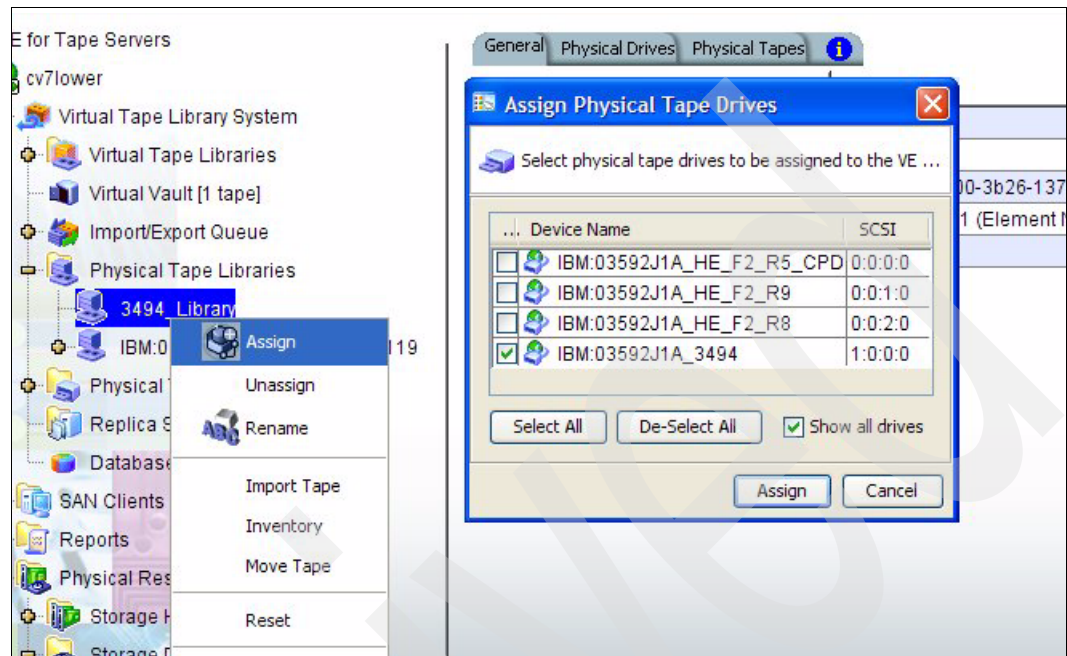

Figure 7-42 Assign drives to 3494 library
7. From the VE Console, select **Storage devices** → **Fibre Channel devices** and enlist the new tape drive. After successful enlistment, right-click the newly created 3494 Tape Library and then click **Assign**, as shown in Figure 7-42.